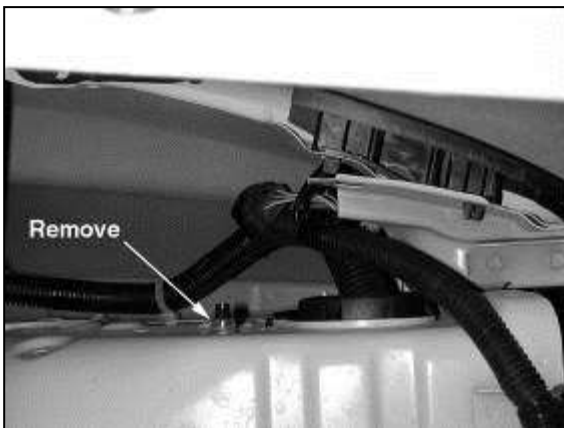

Fig. 9
- f. In the bumper cavity, locate the nut holding the ABS unit to the fender well and remove it. **(Fig. 9)**